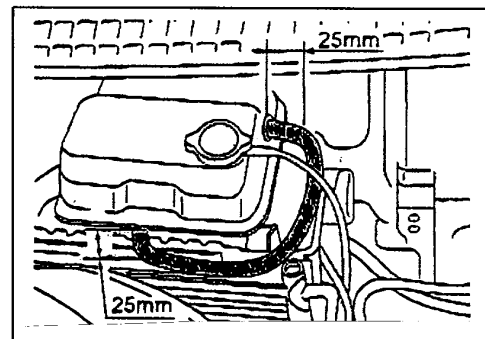

Figure 6
3. Cut off the expansion tank deaeration hose 25mm at both ends to prevent touching with the air cleaner duct. (refer to figure 6)